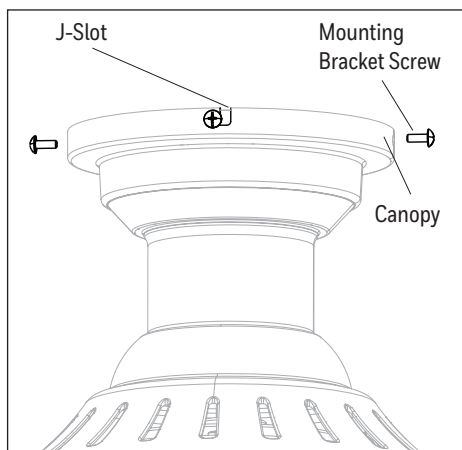

Figure 4.2
2. Raise the canopy, ensure the two mounting bracket screws are aligned with the J-shaped slots in the canopy. Then turn the canopy in a clockwise direction until the mounting bracket screws are completely engaged in the J-shaped slots. Install the two previously removed mounting bracket screws in the round holes. Securely tighten all mounting bracket screws (Figure 4.2).